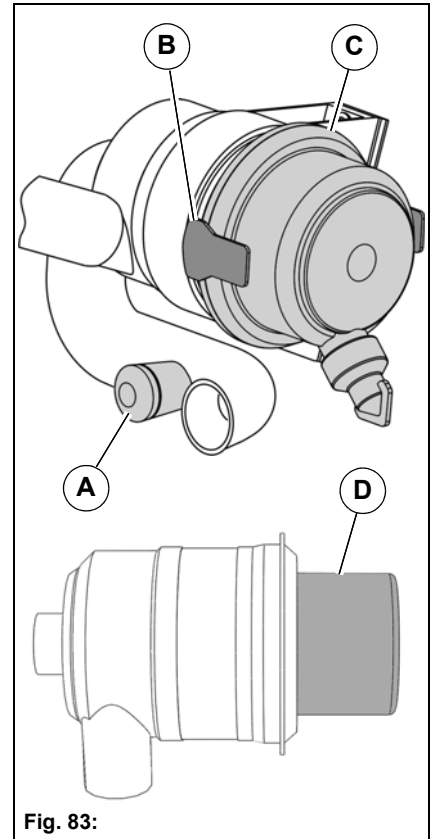

Fig. 83:
Check the filter insert **Fig. 83-D** corresponding to the maintenance indicator **Fig. 83-A** and clean it if required. Change the filter insert at the latest every 500 operating hours.
2. Open the clips **Fig. 83-B** and remove the filter lid **Fig. 83-C**.
3. Remove the filter insert **Fig. 83-D** and clean it from inside to outside carefully with dry compressed air (max. 3 bar) by up and down movements of the compressed air tube.
3. Remove the filter insert **Fig. 83-D**.